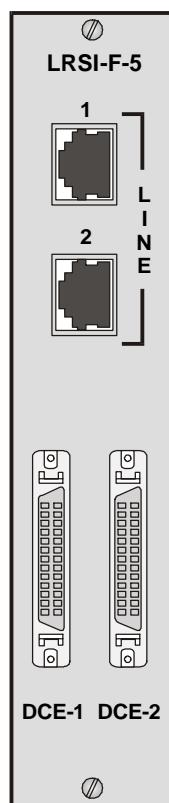

Figure 2-2. LRSI-F-5
- **LRSI-F-5** – V.24/RS-232 (64 kbps), V.35, X.21, RS-530 and V.36 interfaces (via adapter cables), see *Figure 2-2*.